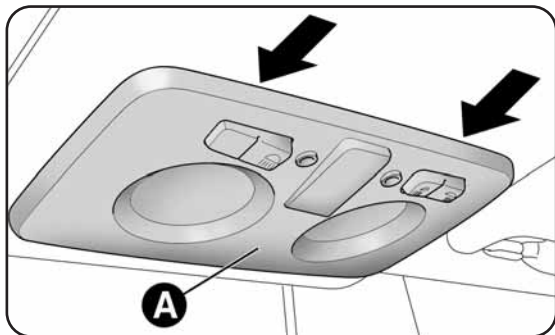
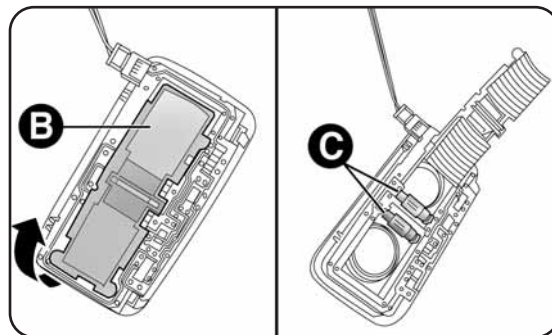

fig. 31
fig. 32
- remove courtesy light A-fig. 31 by applying leverage at the points shown by the arrows;
- open flap B-fig. 32 replace bulb C, releasing it from the side contacts. Make sure that the new bulbs are correctly secured between the contacts;
- close flap B-fig. 32 and secure courtesy light A-fig. 31 in its housing.